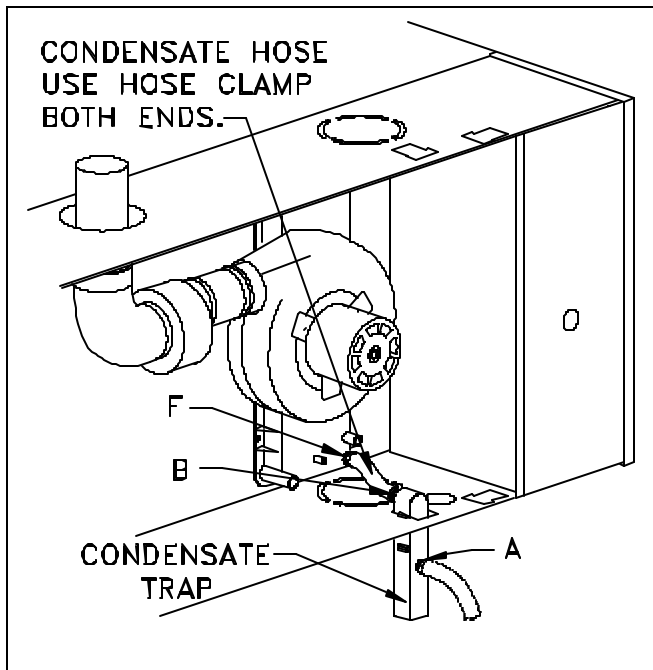

Figure 23. Horizontal Air-Right Drain-Trap Installation
1. See Figure 23 for drain trap location for your installation. In horizontal positions, condensate drain trap must be mounted through bottom side of furnace.